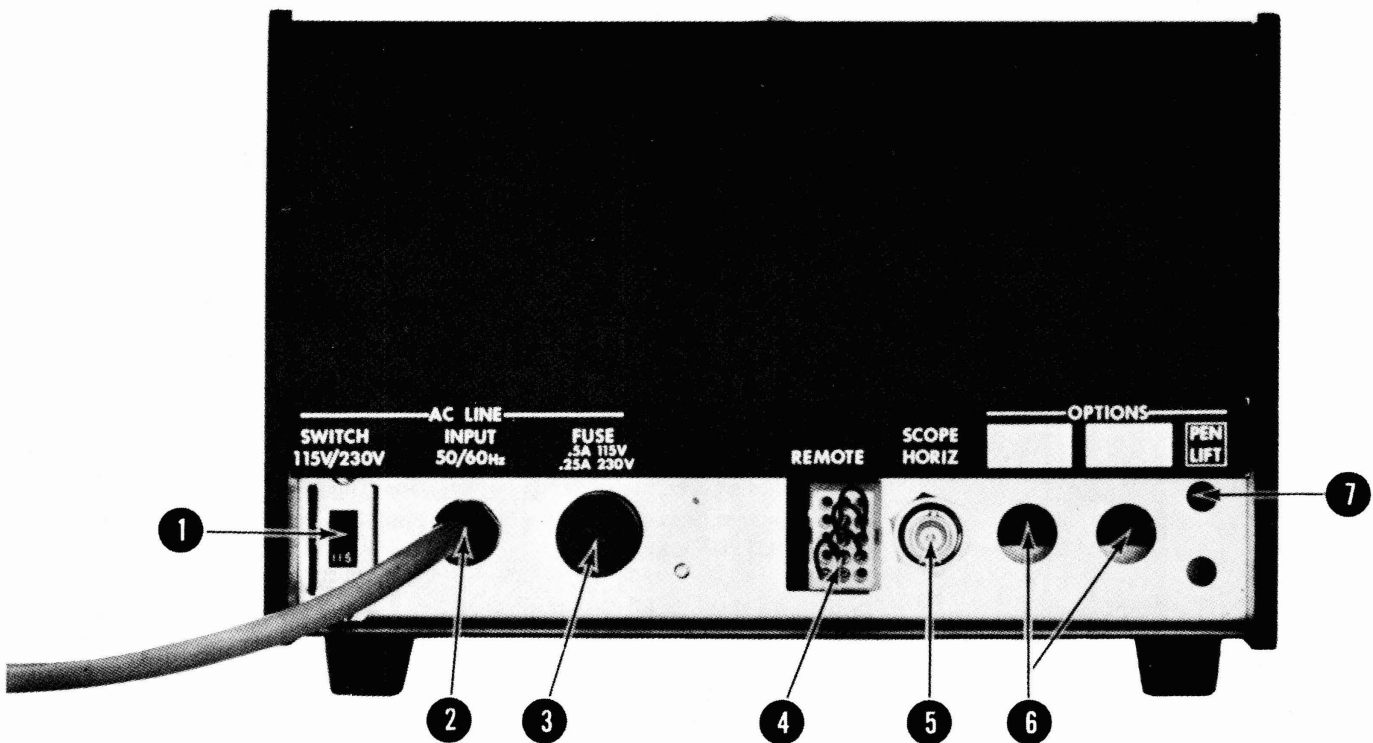

Figure 3-2. Rear Panel
3.3 DESCRIPTION OF REAR PANEL (Refer to Figure 3-2 for location)
- ① SWITCH 115/230V – Selects 115 or 230 V line voltage.
- ② INPUT 50/60Hz – 3 prong AC plug provides connection to AC mains.
- ③ AC LINE FUSE – 0.5A for 115 V AC or 0.25A for 230 V AC.
- ④ REMOTE Jack – Provides connection for programming of frequency, sweep width and RF output level. (See paragraph 3-6 for detailed instructions). This jack is supplied with a mating "jumped plug" which provides Front Panel control.
- ⑤ SCOPE HORIZ. Jack – BNC jack provides connection to (X) axis of oscilloscope or plotter. This connector is in parallel with the SCOPE HORIZ. connector located on the Front Panel.